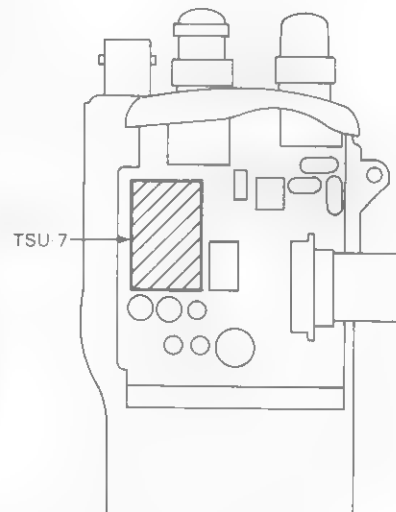

Fig. 4
- 6 Attach the TSU-7 to the transceiver, as shown in fig.4.